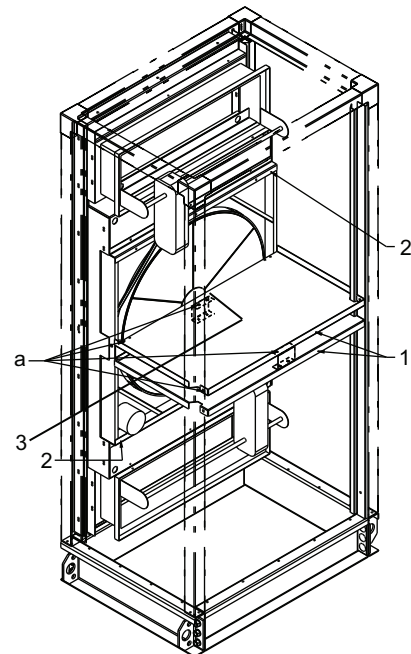
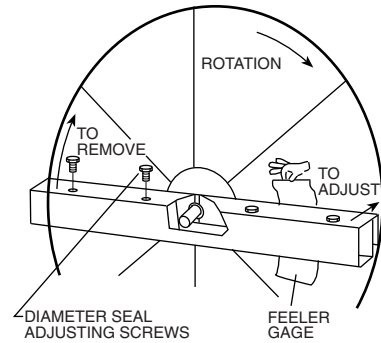
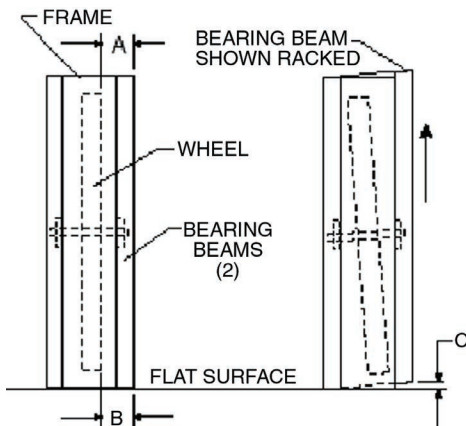

Fig. 183 — Remove Wheel for Cleaning (Wheel Sizes 25 and 30 Only)
Fig. 186 — Diameter Seal Adjustment
Fig. 185 — Avoid Racking of Frame
To clean wheels (size 25 and 30) use this procedure and refer to Fig. 183:
4. Refer to Fig. 183. Remove the upper and lower wheel center partition plates. This requires removing screws (a) of the upper and lower plate.
5. Remove the upper and lower (2) wheel retainer angles, being careful wheel does not tip and fall out.
6. Slide wheel cassette out of frame (toward main AHU), and out the side of the unit (3).
7. The new ERV section may be mounted in any orientation. However, make certain that the frame remains flat and the bearing beams are not racked as shown in Fig. 185.
at each end of the bearing beam, to within $\frac{1}{4}$ of an inch (dimension A and B in Fig. 185). Bearing beam racking of as little as 0.040 inches (Dim C in Fig. 185) will cause the wheel to tilt $\frac{3}{16}$ in. at the rim. Adjusting the diameter seals (Fig. 186) will compensate for up to $\frac{1}{4}$ in. of racking.
9. Wheel sections installed at angles greater than 30 degrees from vertical will require seal adjustment (Fig. 186). Adjust the diameter seals to avoid excessive wheel drag. A final check of seal adjustment is recommended for all designs.
1. Loosen the diameter seal adjusting screws and back seals away from wheel surface (Fig. 186).